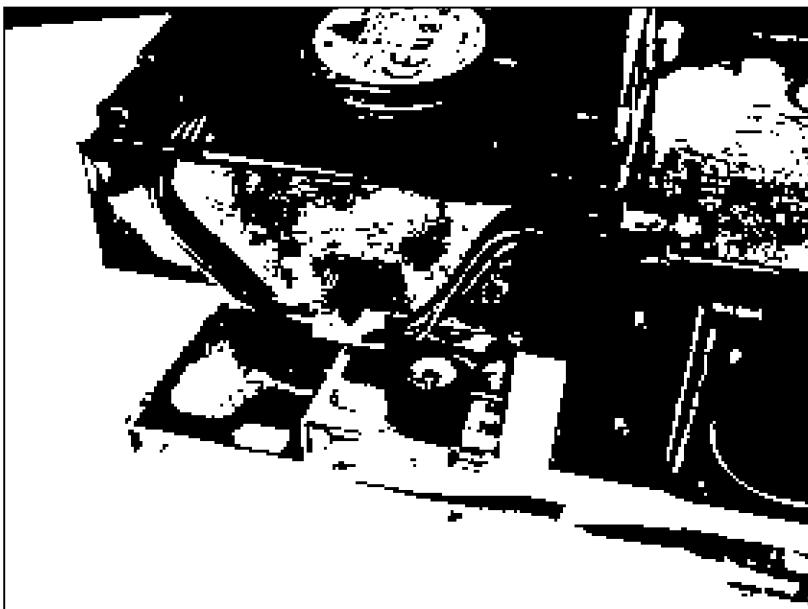

Figure 7-11:
- 6. Place the fan partially into the internal frame, with the cable side touching the internal frame and the rest tilted up at an angle, as shown in Figure 7-11.**
7. Route the fan cables under the bottom clip of the frame and through the slots, as shown in Figure 7-11.